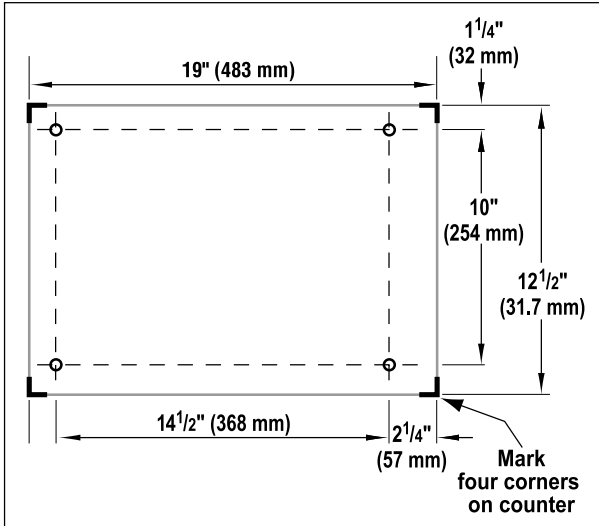

Fig. 3 Mounting Hole Location
1. Position the kettle on the counter or stand in its final installed location with sufficient rear clearance (see Table 2 for minimum required clearance) from the wall to allow the kettle to tilt completely without obstruction. Mark the four corner locations of the kettle base as shown in Fig. 3.
2. Remove the kettle from the counter and drill four $\frac{7}{16}$ " diameter holes according to the measurements in Fig. 3.